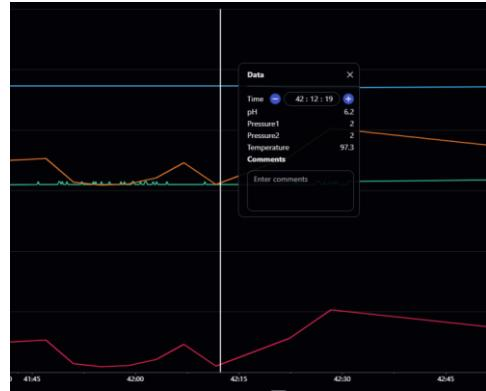

Figure 4-20 Placing a Time Point Mark
2) Move the cursor over to the graph and double click on the graph to place a mark at the pointer's time point (as shown in Figure 4-20) while showing the value of that mark. After inputting comments, the mark can be saved.